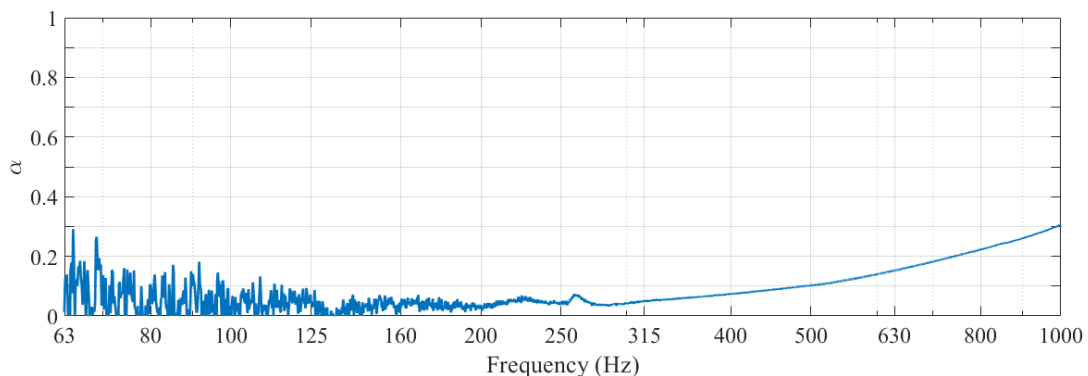

Figure 6: Absorption coefficient measured with the calibration sample
8. In Matlab, create a code allowing you processing the reflection coefficient R and the absorption coefficient α of the material sample, according to the method of ISO 10534-2 standard. Compare the measured sound absorption coefficient with Figure 6.